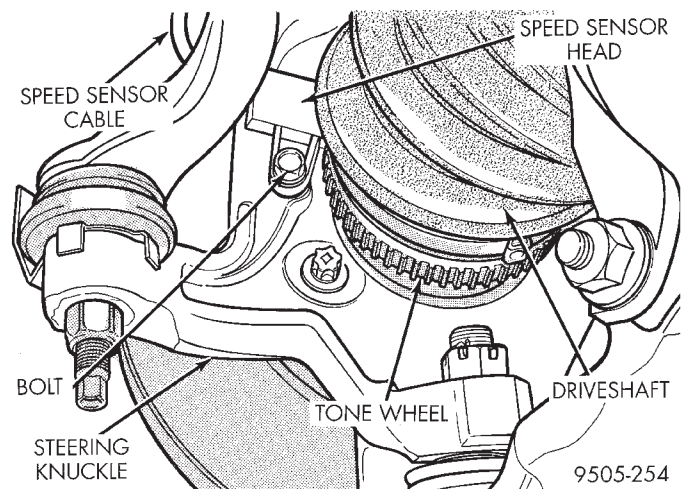

Fig. 33 Speed Sensor Head Attachment To Steering Knuckle
(5) Remove bolt (Fig. 33) attaching the speed sensor head to the steering knuckle. Then remove speed sensor head from steering knuckle